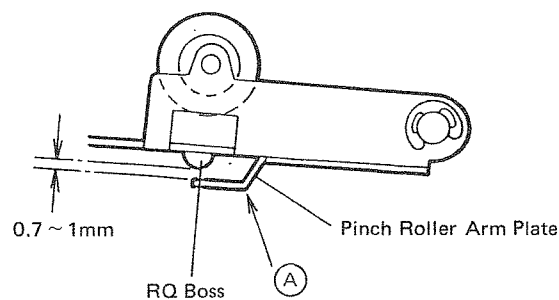

Fig. 27
2. After adjustment check that the gap between the RQ boss and the pinch roller arm plate is within 0.7 to 1mm. If it is beyond the limits, adjust it by bending the part (A) of pinch roller arm plate as shown in Fig. 27.